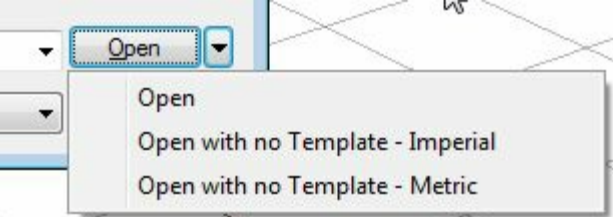

Figure-18. Open drop down
- If you want to create a document with out using any of the above template but with the desired units only then click on the down arrow next to **Open** button in the dialog box. A drop-down will be displayed; refer to Figure-18.